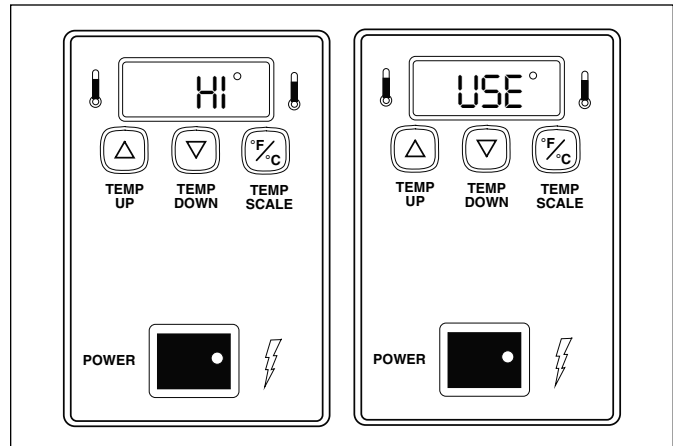

Figure 5. “HI” and “USE” Fault Message
2. Press and hold the **TEMP UP** and **TEMP DOWN** buttons for over 1 second until the display flashes the Platen setpoint temperature (Figure 5), then release.
“HI” and “USE” will flash (Figure 5) if the auxiliary heater’s temperature exceeds 440°F (227°C) or if the auxiliary thermocouple is disconnected or open.